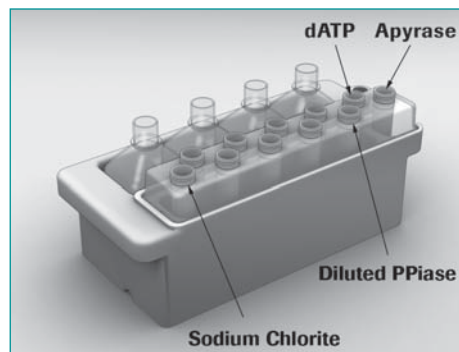

Figure 12: Loading the Reagents cassette, with the Sequencing Reagents tray in the proper orientation
- 5 Invert the tray 20 times to uniformly mix the contents of all tubes. Make sure that there are no undissolved particulates in any of the reagents (pay particular attention to the tube of Substrate reagent), and place the tray back in the Reagents cassette with the lone Apyrase tube at the far end, as shown in Figure 12, below.